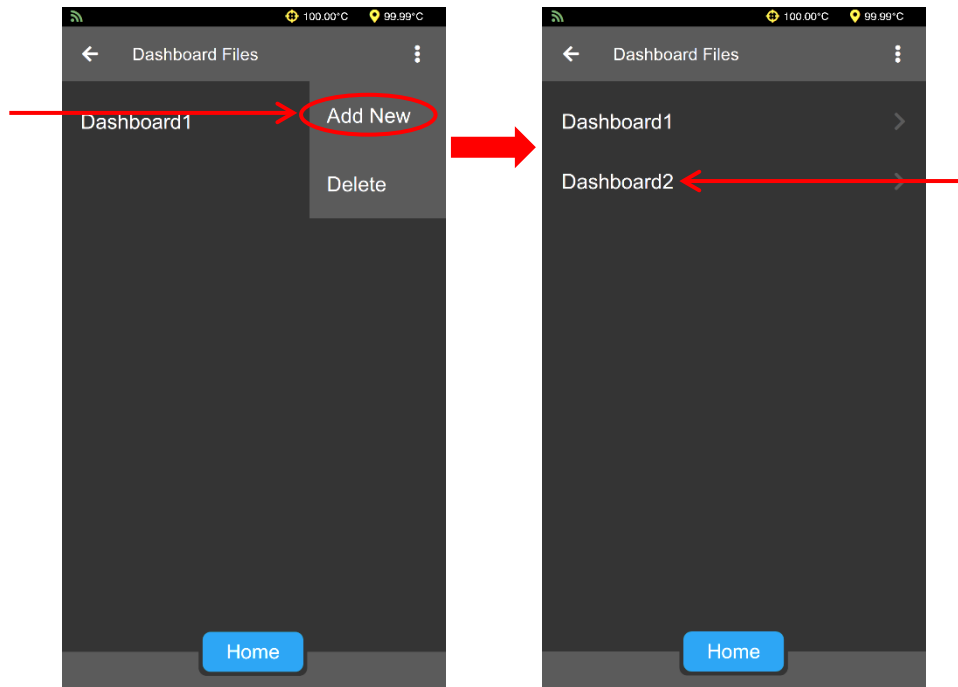

Figure 52: Add New Dashboard
4. Select **Add New** from the dropdown list and a new default Dashboard will be created. See Figure 52.